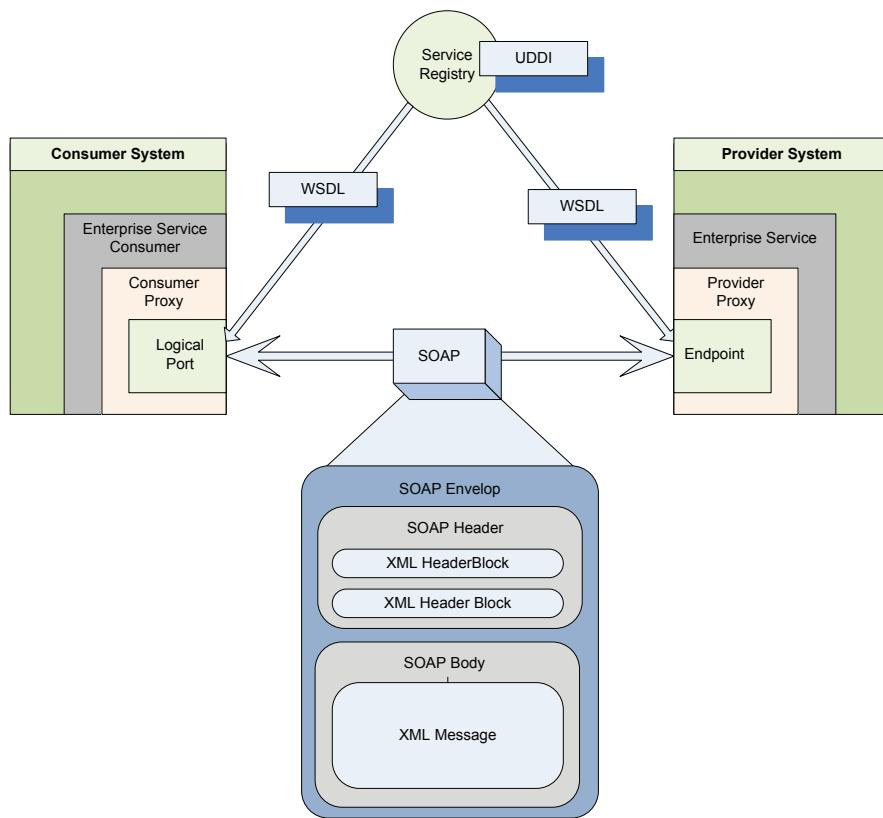

Figure 4: Weservice Communication Using XML Message
The Weservice communication involving XML starts with an outbound message from 'Consumer System' and ends with the inbound message to 'Provider System'. The combo SOAP, WSDL, UDDI defines a general model for information exchange between the two systems (Figure 4):
- 3) Create the webservice following a wizard that opens upon execution of Step 1. Ensure that you select the option to **publish the function module**. Upon completion of the wizard, the Enterprise service interface (Figure 4) is created.